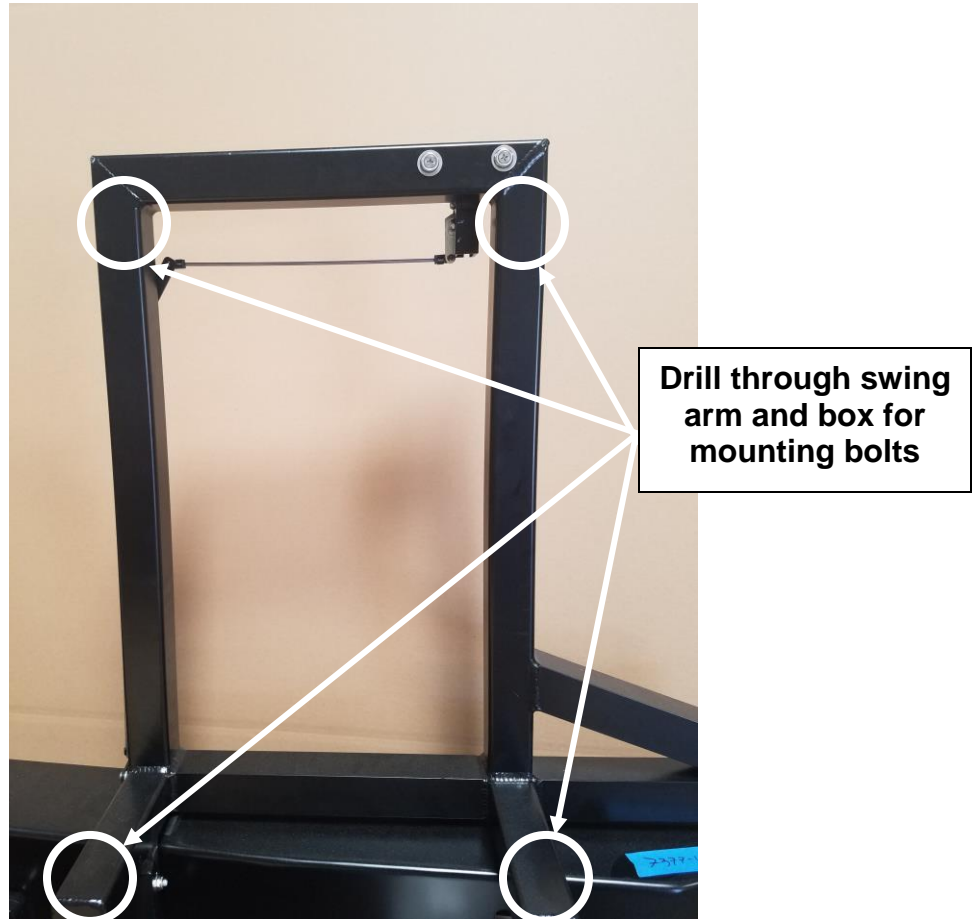

Figure 1. Drill and bolt locations for mounting box
- a. Two of the holes should be drilled through the bottom of the box (**see Figure 1 for location**).
- b. The other two holes should be drilled through the back of the box and the swing arm tubing (also seen in Figure 1).